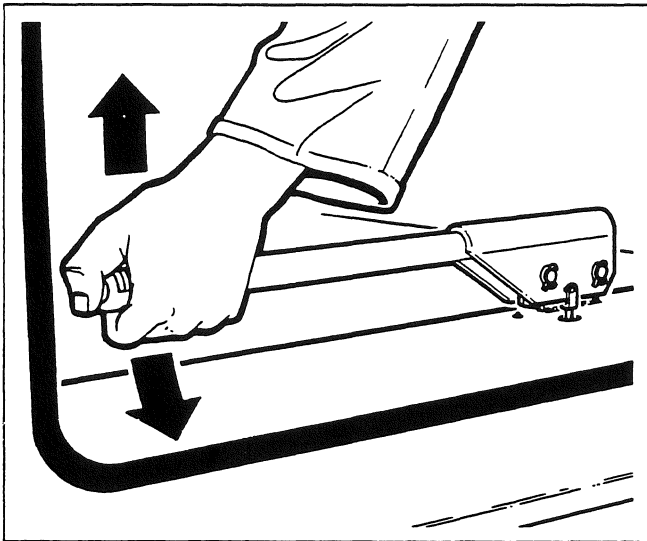

Fig. 46
2. Start the engine when it is safe to do so. Drive the machine forward in third gear and lightly apply the hand brake a few seconds at a time to reduce the engine speed (see Fig. 46).